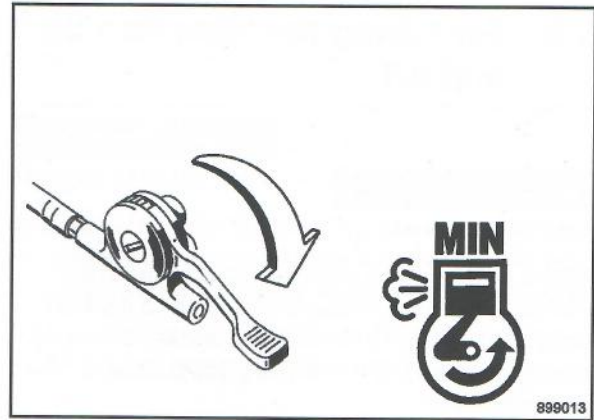

Fig. 40
- Set the throttle lever (Fig. 40) to position "MIN".